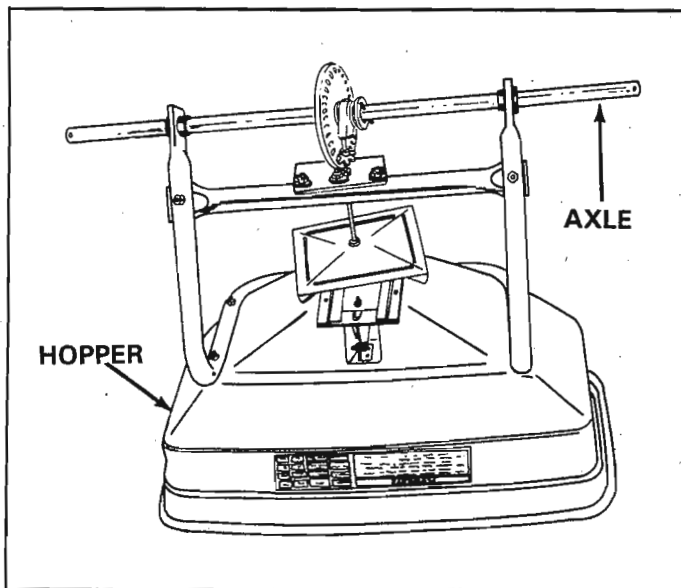

FIGURE 3
- 2. Turn the spreader upside down as shown in figure 3, so that it rests on the hopper.